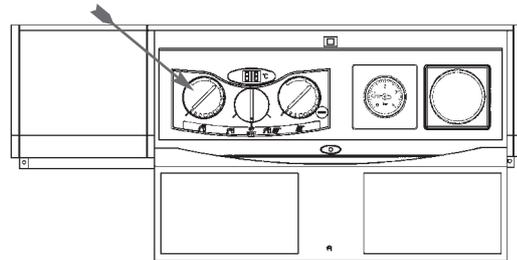

Fig. 3
**2.3** The maximum water flow rate to the tap is set at a predetermined maximum delivery. The temperature of water at the tap can be varied by adjusting the water flow rate at the tap up to the predetermined maximum. The hot water temperature control knob (7) will govern the maximum temperature. Turning the knob clockwise increases the setting, anticlockwise decreases setting. (Fig. 3) When the appliance is being used in the hot water mode the temperature/fault indicator (1) indicates the approximate temperature of the hot water leaving the appliance.